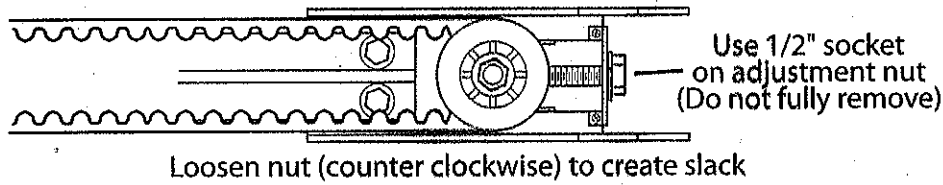

FIG 2
5. Remove Nyloc nut, Washer, and Bolt from old Pulley. FIG 2\*.
6. Install Bolt, Washer, Bushing, Pulley, Washer, and new Nyloc Nut. FIG 2\*.